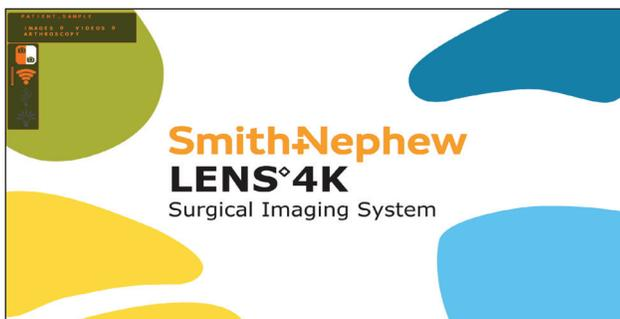

Figure 8. READY screen
6. When the LED changes to a constant green and the progress bar disappears, the monitor will display the READY screen (Figure 8).
For example, in Figure 8, the left side of the icon is orange, which indicates that the Camera Head port is available for connection. The right side of the icon is white, which indicates that the secondary video input (image management system, fluroscopic device, etc.) is not operational or not connected and should be checked.